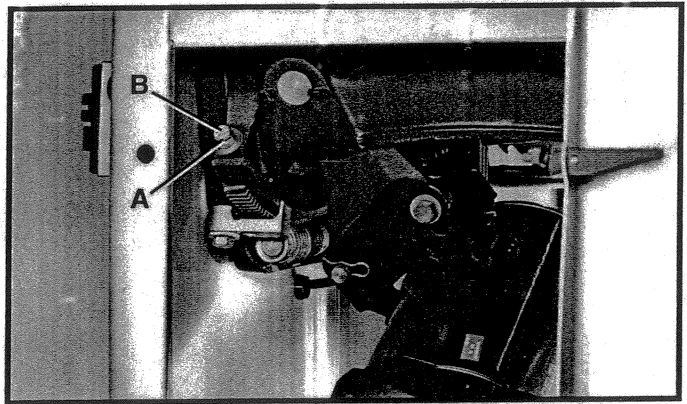

Fig. 65
2. Using a square, check to see if the blade is 90 degrees to the table. If an adjustment is necessary, turn the blade tilting handwheel counterclockwise. Loosen locknut (A) Fig. 65, and tighten or loosen adjusting screw (B) until head of screw (B) contacts casting on front trunnion when the blade is at 90 degrees to the table. Then tighten locknut (A).